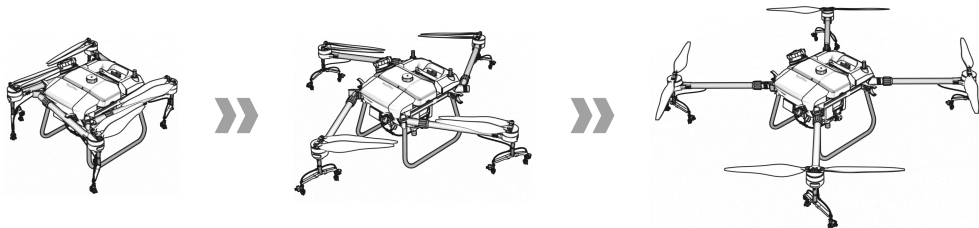

Figure 1-17 Arm Unfolding Progress
Step 3: Unfold the arms. See Figure 1-17.